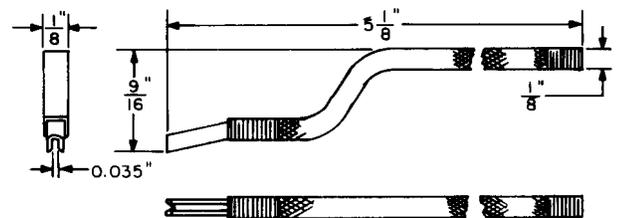

Fig. 12—432B Adjuster Tool
2.12 **432B:** The 432B tool (Fig. 12) is a multiple bank terminal adjuster for use on panel multiple banks. The 432B tool replaces the 432A tool.